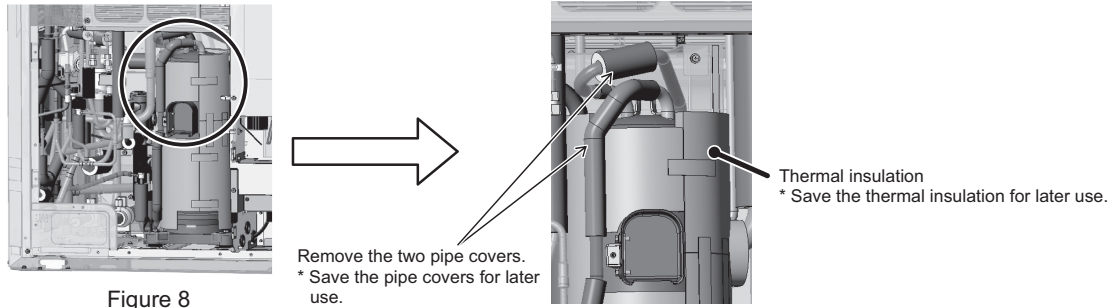

Figure 8
(8) Remove the pipe covers and the thermal insulation on the compressor. (See Figure 8.)